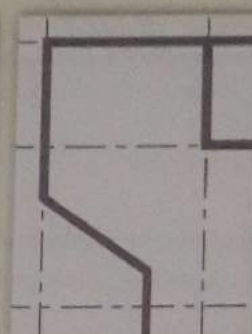

Figure 52: Wall editing.
20. In the same way, complete the plan as shown in the below image (Figure 52B53).